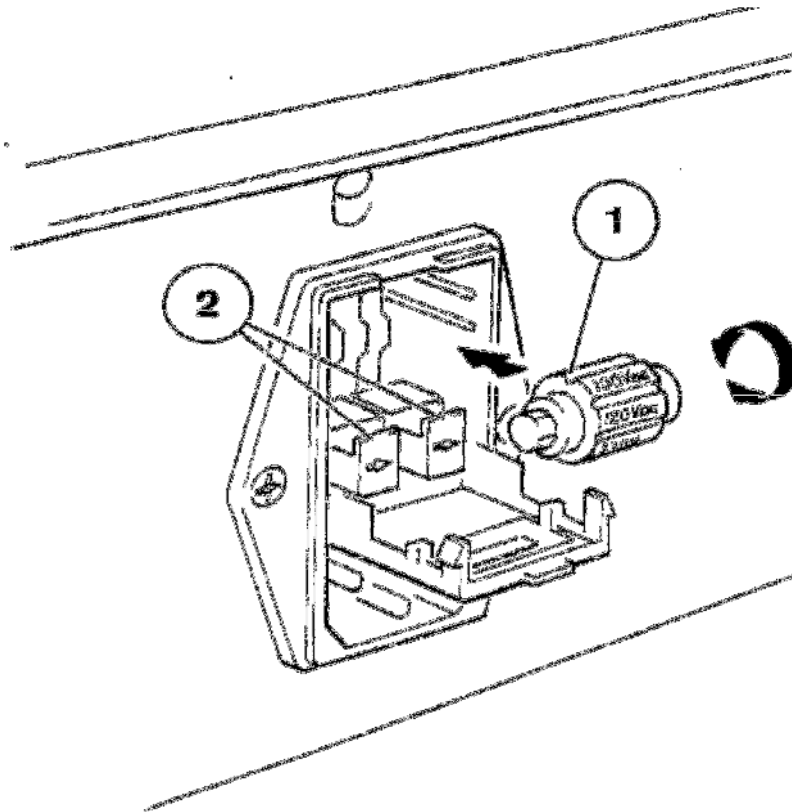

Figure 6.3 Voltage Selector and Fuse
4. Open the voltage selector compartment and withdraw the voltage selector, item 1, Figure 6.3. To replace fuses continue with paragraph 5; to change the operating voltage continue with paragraph 7.
5. Slide out the two fuse holders, item 2, Figure 6.3, and remove the fuses.